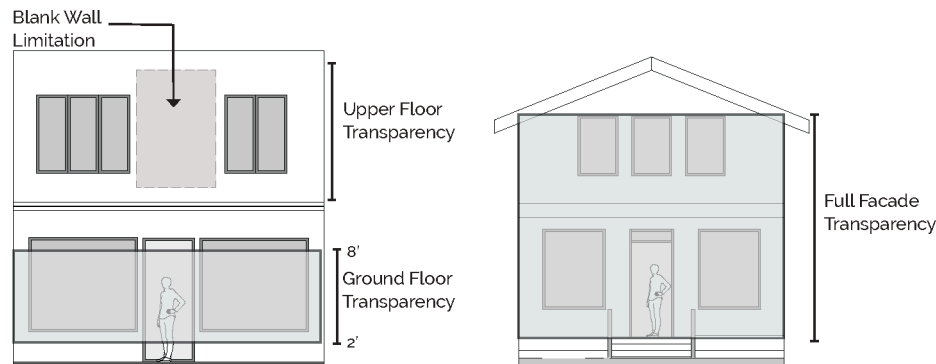

Figure 5.5-1 Measuring Transparency: Ground Floor, Upper Floor, and Full Facade
- (1) Transparency: measurement of the percentage of a facade that has clear, nonreflective windows that allow clear vision into a building's occupied space. Refer to Figure 5.5-1, Measuring Transparency: Ground Floor, Upper Floor, and Full Facade.
- [1] Transparency. Minimum transparency is 70%, measured between two and eight feet above the grade of the sidewalk. Refer to Figure 5.5-1, Measuring Transparency: Ground Floor, Upper Floor, and Full Facade.
- [1] Transparency. Minimum transparency is 50%, measured between two and eight feet above the grade of the sidewalk. Refer to Figure 5.5-1, Measuring Transparency: Ground Floor, Upper Floor, and Full Facade.
- [1] Transparency. Per lot type, unless the porch is fully enclosed, in which case a minimum of 40% is applied. Refer to Figure 5.5-1, Measuring Transparency: Ground Floor, Upper Floor, and Full Facade.
- (3) Entrances on street-facing facades: the maximum spacing between entrances on a street-facing building facade.
- (4) Entrances on other facades. An entrance is required on side and rear facades when fronting parking areas.